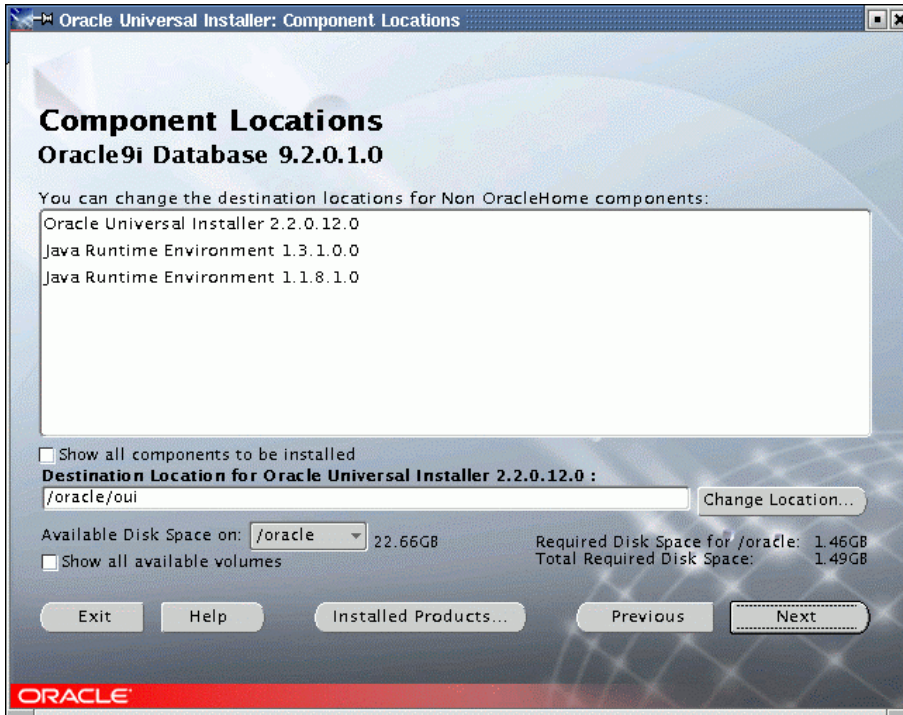

Figure 43. Component Locations
- The Components Location window is displayed (Figure 43). Do not modify the values, click **Next** to continue.